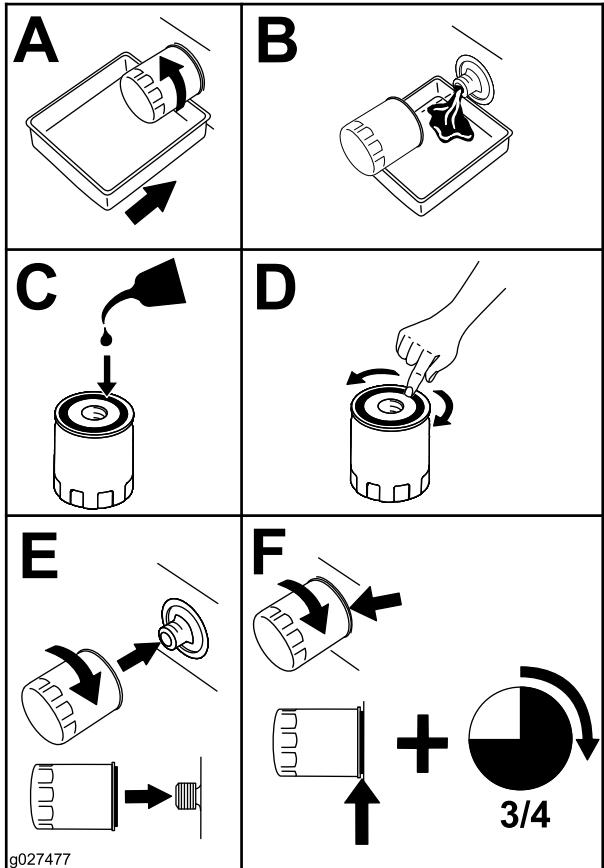

Figure 57
2. Change the engine-oil filter (Figure 57).